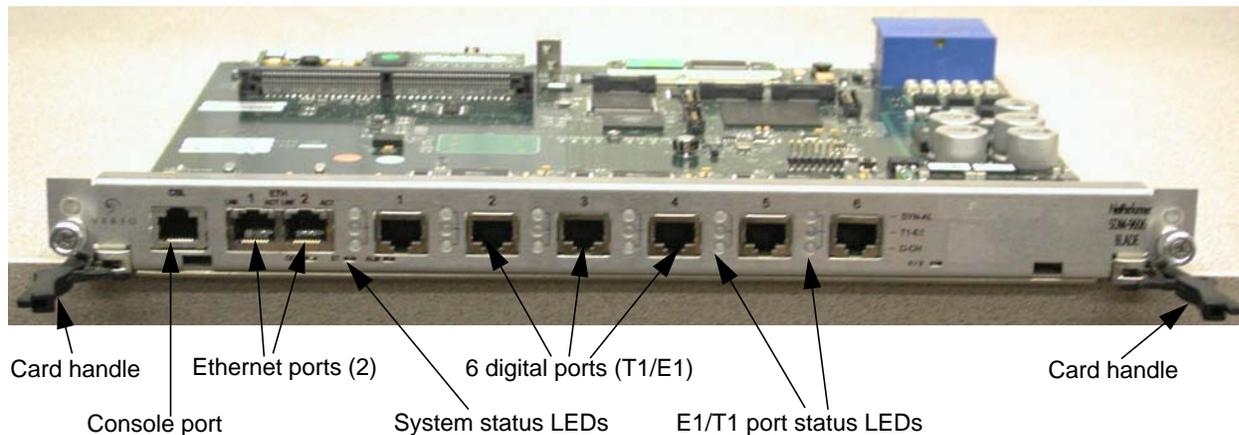

Figure 4-5: The SDM-9606 Blade
1. Connect one end of the LAN cable to one of the Ethernet LAN ports on the blade, labelled **ETH 1** and **ETH 2**. Refer to Figure 4-5.